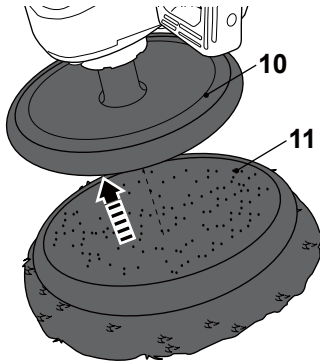
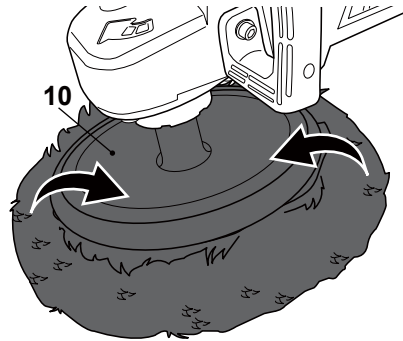

Fig. 5
Fig. 6
- > Place the polishing bonnet (11) onto the backing disc (10) concentrically (Fig. 5).
- > Press the polishing bonnet (11) gently against the backing disc (10) to engage the hooks and loops in order to ensure a secure bond.
- > Fold up the outer rim polishing bonnet (11) around the the backing disc (10). Make sure the entire backing disc (10) is wrapped in the outer rim of the polishing bonnet (11) (Fig. 6).